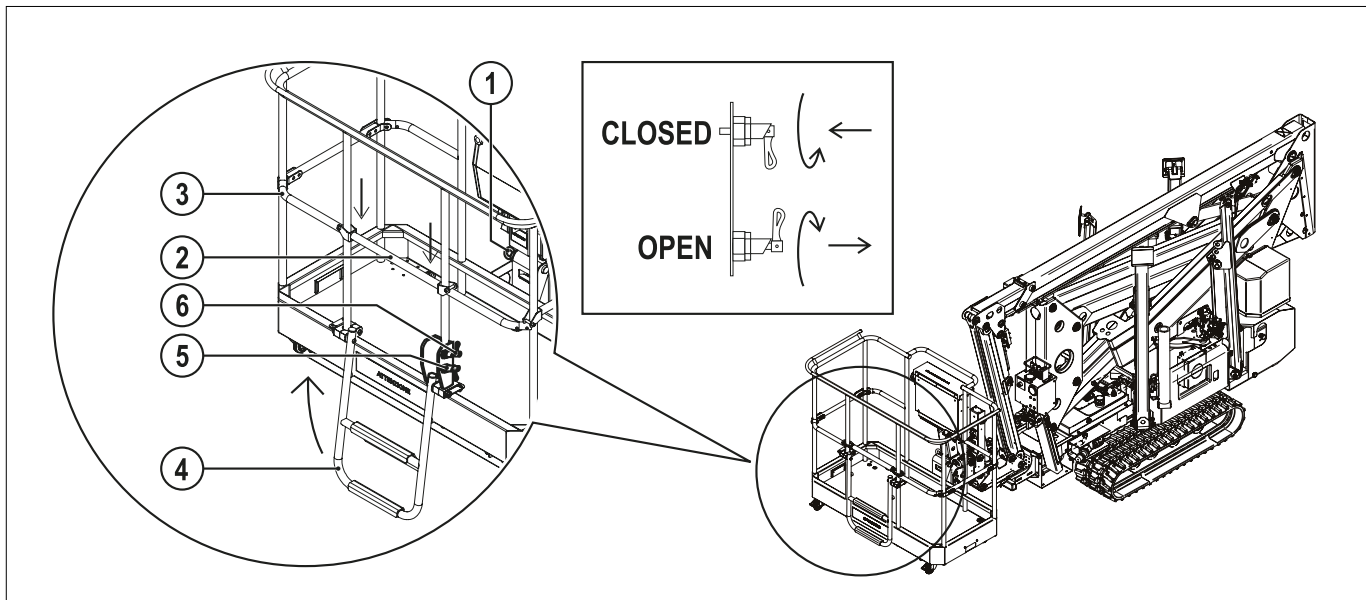

FIG. 33 (Getting down from the work platform)
- 1) Rotate the upper safety lever (FIG. 33 - Ref. 6) which secures the access ladder to the work platform
- 2) Rotate the access ladder (FIG. 33 - Ref. 4) towards the outside of work platform
- 3) Rotate the lower safety lever (FIG. 33 - Ref. 5) to secure the access ladder
- 4) Unhook the snap hook of the harness from the anchorage points (FIG. 33 - Ref. 1)
- 5) Lift the sliding rail (FIG. 33 - Ref. 2) and descend from the work platform (FIG. 33 - Ref. 3)
- 6) Carefully go down the access ladder (FIG. 33 - Ref. 4)
- 8) Rotate the lower safety lever (FIG. 33 - Ref. 5) to release the access ladder
- 10) Rotate the upper safety lever (FIG. 33 - Ref. 6) which secures the access ladder to the work platform